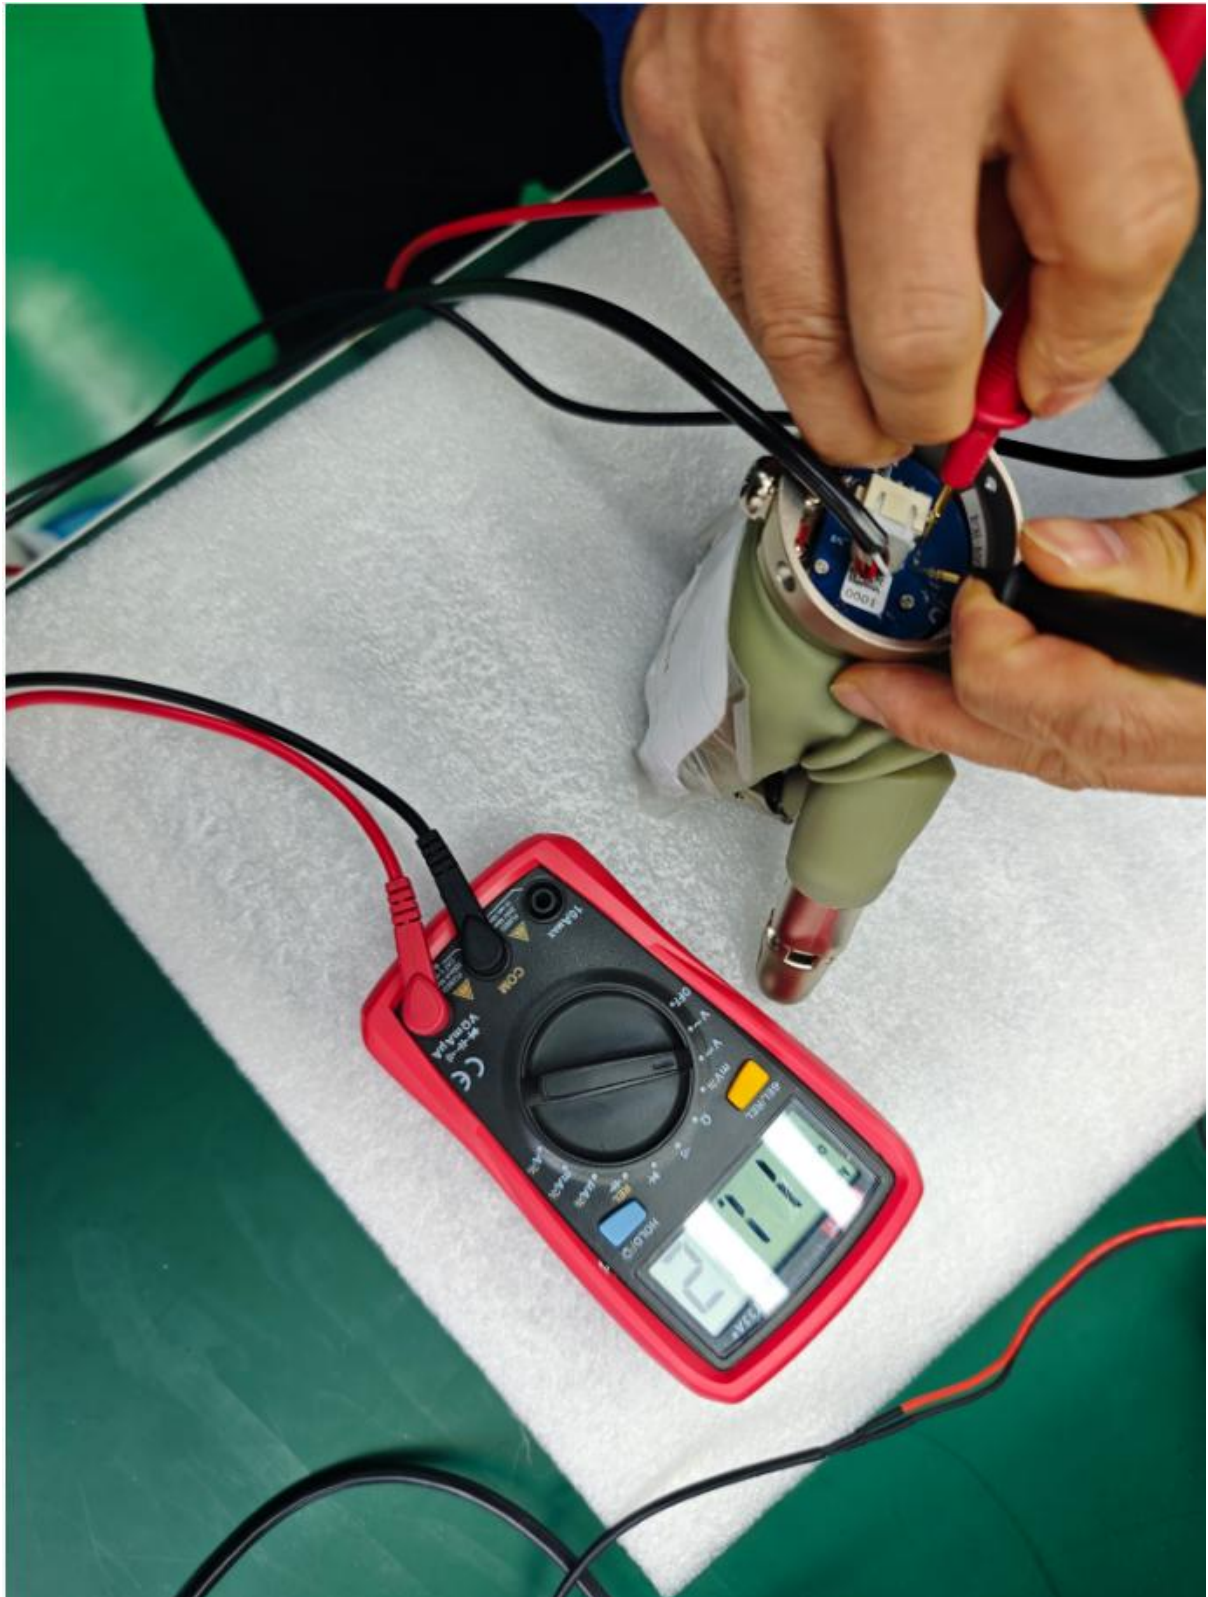

Figure 7
- Test at the power output to the hand main board on the power board. The voltage should be approximately 11.2 V (10.5 V to 12 V is acceptable), as shown in Figure 7.: